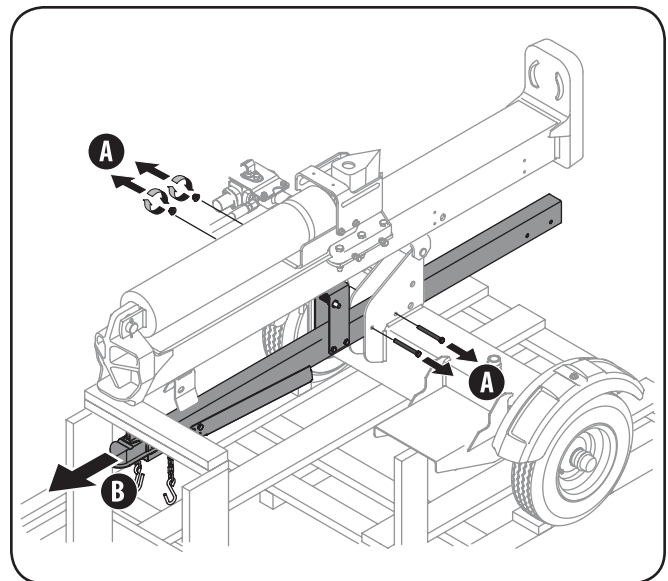
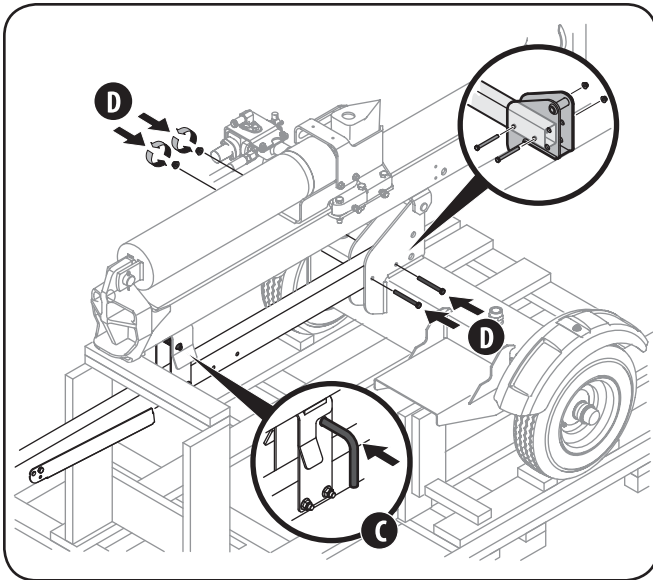

Figure 3-2
Figure 3-3
For shipping purposes, the tongue tube is secured to the logsplitter frame near its center. To reposition it, refer to Fig. 3-2 and Fig. 3-3 and proceed as follows:
- C. Pull the beam lock outward, line it up with the hole in the beam bracket and release the beam lock. See Fig 3-3.
- D. Fasten the tongue tube to the frame by reinstalling the two three-inch hex screws removed earlier and tightly securing with the two flange lock nuts. See Fig. 3-3.